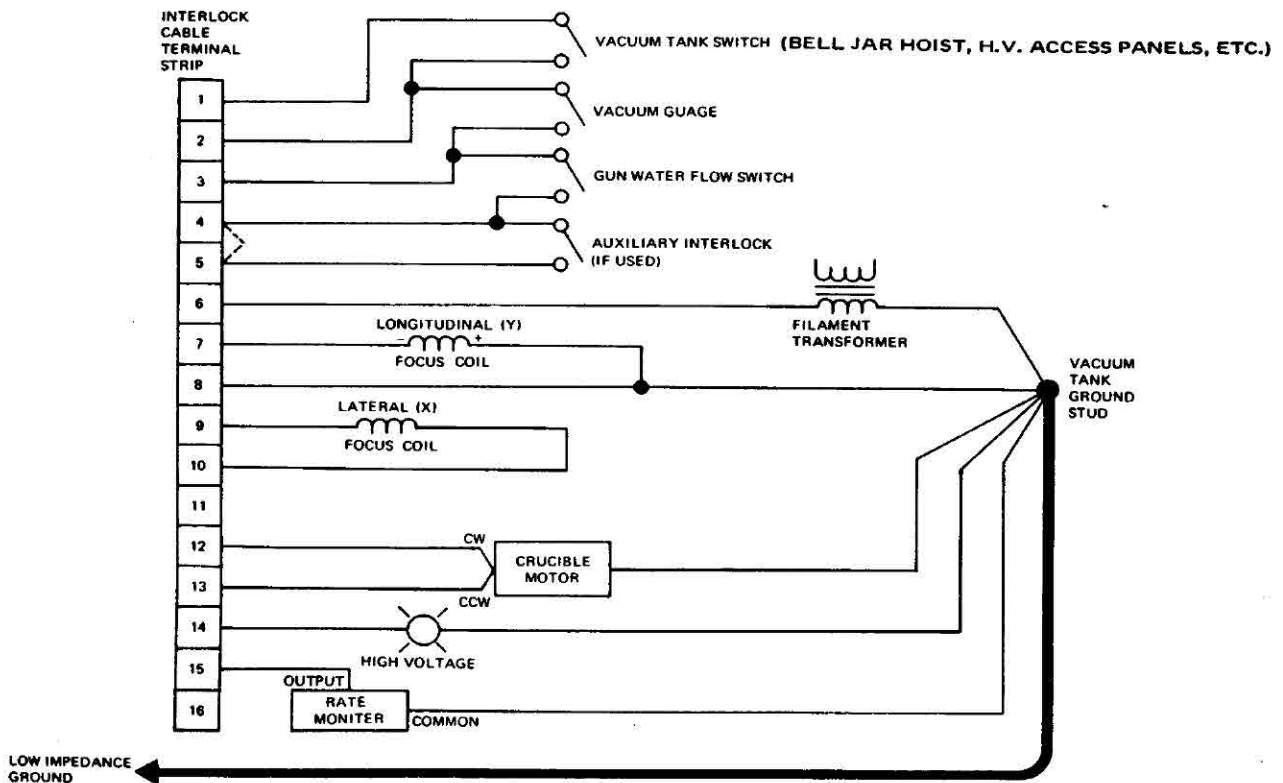

Figure 2-5. Interlock terminal strip connection diagram
2.3.6 Power Supply to Vacuum Tank Connections (Original CV-14) Figs. 2-5 and 2-6